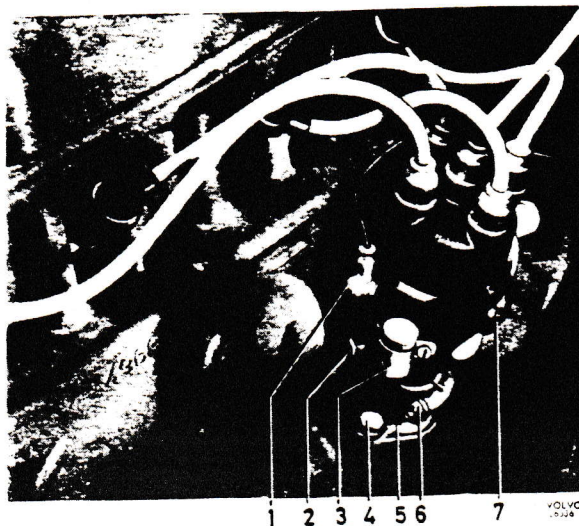

Fig. 67. Distributor fitted
3. Disconnect the primary lead (1, Fig. 67).
5. Unscrew the bolt (6, Fig. 67) and lift up the distributor.